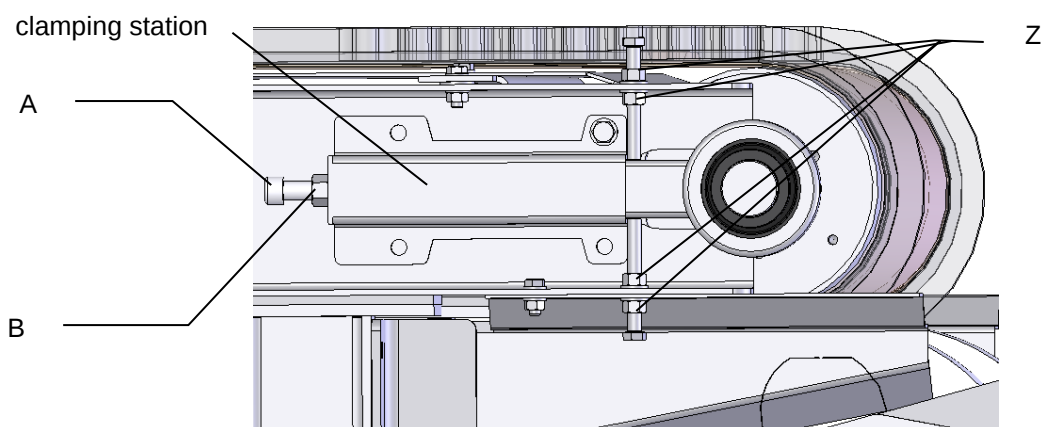

Fig. 17
- Slightly loosen nuts Z on the clamping stations on both sides of the machine. They are used to align the drive roller horizontally (Fig. 17).
In case of off-track running, the belt should be re-adjusted as follows (fig. 17):
- Slightly loosen nuts Z on the clamping stations on both sides of the machine (see fig. 17). They are used to align the drive roller horizontally.
- Loosen counternut B on the clamping station on the side of the machine, where the belt moves inwards (see fig. 17).
- Loosen counternut B on the clamping stations (2) on both sides of the machine (fig. 17).